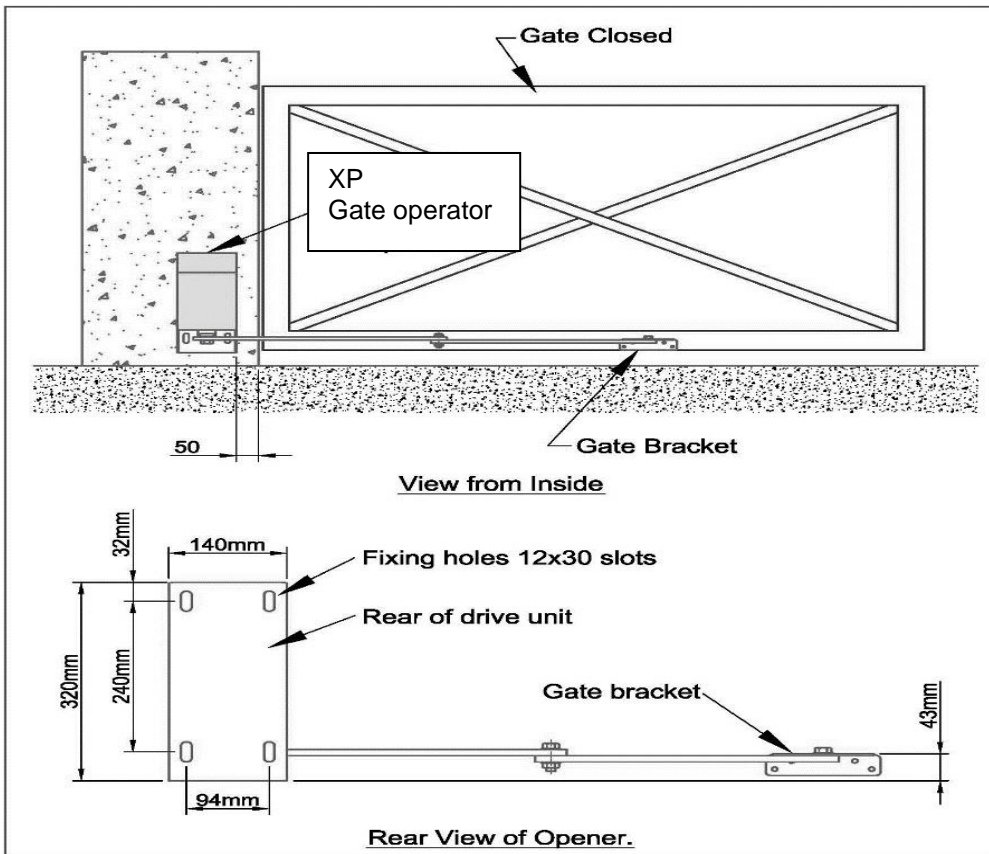

Figure 2: Position of operator.
3. Position each unit on the gate post(s) approximately 50mm from the edge of the pier/post. The vertical position is found by locating the gate bracket. The gate bracket is best placed where there is adequate fixing on the gate and the movement of the arms is unrestricted (See Figure 2). The gate operator may now be bolted in place.